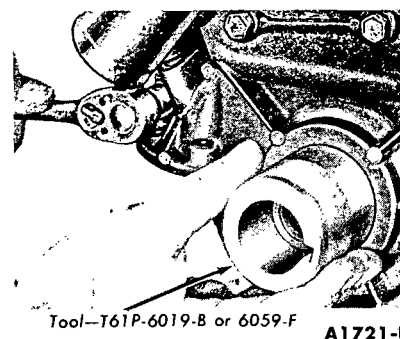

FIG. 42—Cylinder Front Cover Alignment
6. Install the alignment pilot tool on the cylinder front cover so that the keyway in the pilot aligns with the key in the crankshaft. Position the cover and pilot over the end of the crankshaft and against the block (Fig. 42). Coat the threads of the retaining screws with oil-resistant sealer and install the screws. While pushing in on the pilot, torque the screws to specifications. Remove the pilot.